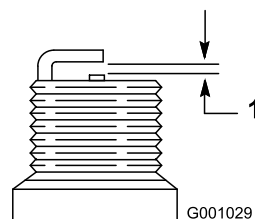

Figure 51
- Set the gap between the electrodes on a new spark plug at 0.030 inch (0.76 mm) (Figure 51).